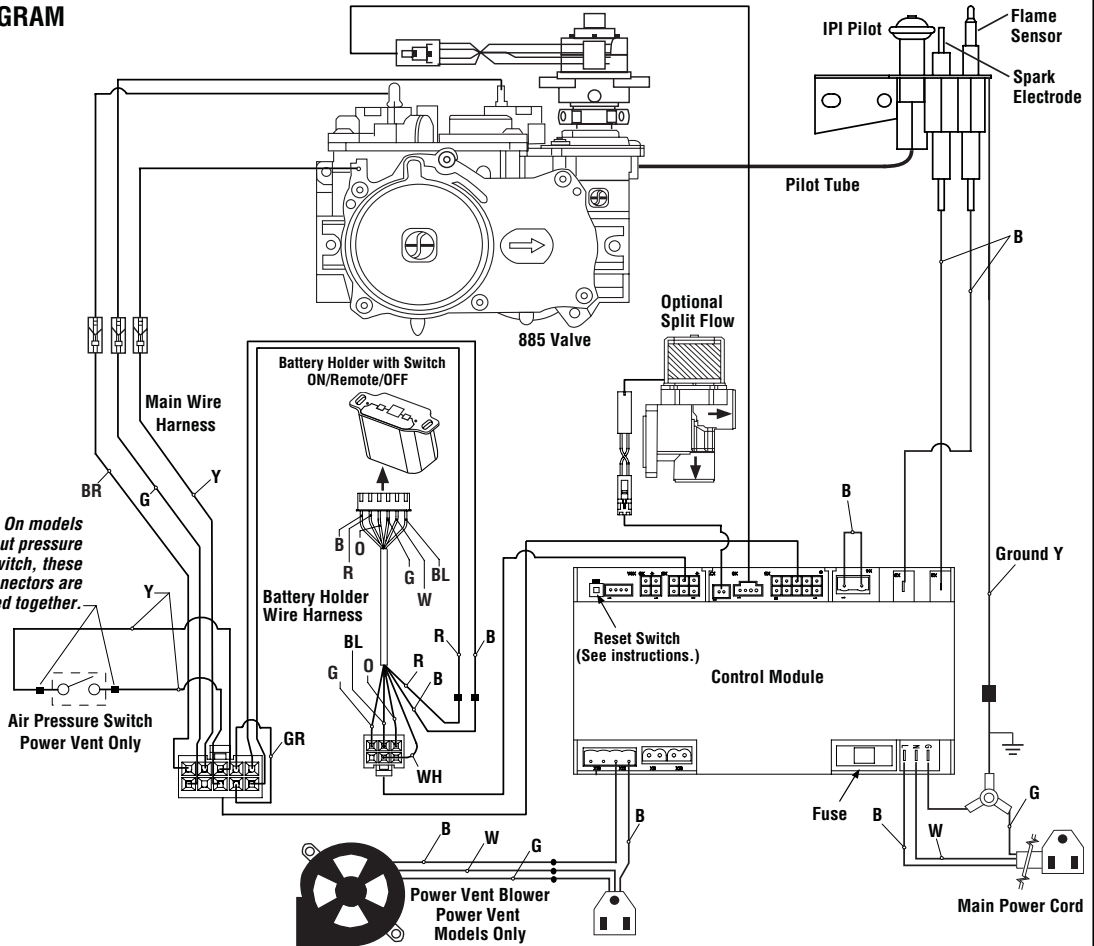

Figure 29 - Electronic Wiring Diagram
Wiring - Fireplace (See Figures 29 and 30 on Page 23)
4. Connect the black power supply to the **power outlet** red pigtail lead and the white power supply to the **common** terminal of the outlet as shown in **Figures 29 and 30 on Page 23**.